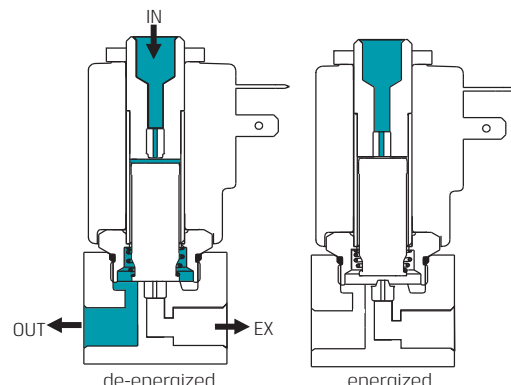

Fig. 4
- Normally Open (NO) Fig. 4 - flow from inlet port, no flow from the exhaust port.